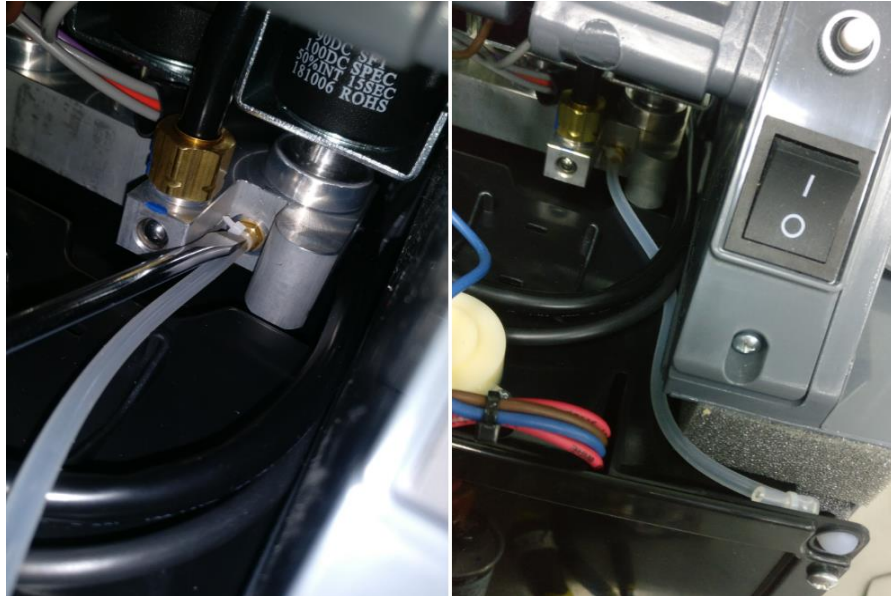

Figure 4
5. Use a screw driver to make sure the cable tie is set all the way to the brass fitting again. Then route out the silicone tube as shown in figure 4, fold the open end of the tube over onto itself, and seal the end with cable tie.